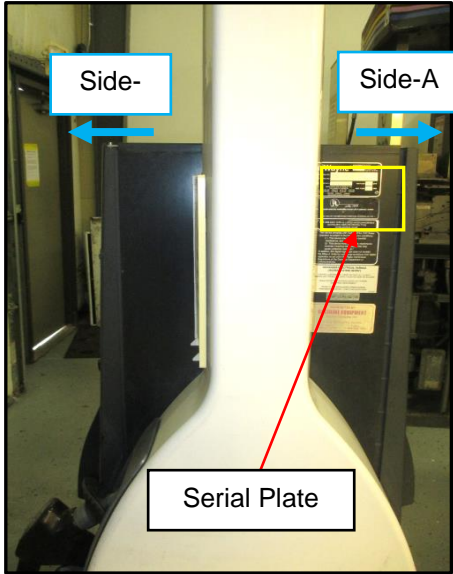

Fig 1.1a – Identifying Side-A using Serial plate
2. Identify the A Side of the dispenser. The side that the serial plate is mounted on, typically located on the upper left or right hand side of the dispenser, is Side-A. However, if no serial plate is present, Side-A can be identified by opening up the Dispenser Main Door and locating the IGEM board on the Electronics Mounting Bracket inside of the Electronics Cavity. (Fig 1.1a,b)